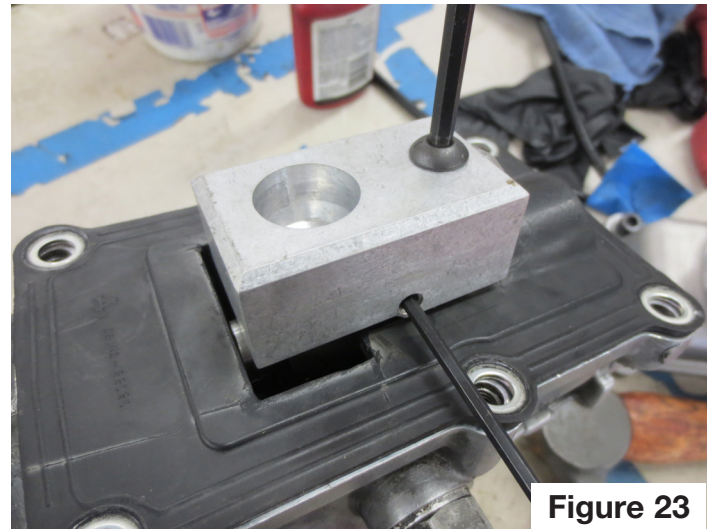

Figure 23
22. Apply medium strength Loctite (blue) to the 5/16-18 cap screw (100). Support the adapter plug (70) under the dog in the shifter mechanism (80) with your finger. Place the shift converter block (90) over the dog and bolt the adapter plug to the shift converter block with the 5/16-18 cap screw. See figure 23.